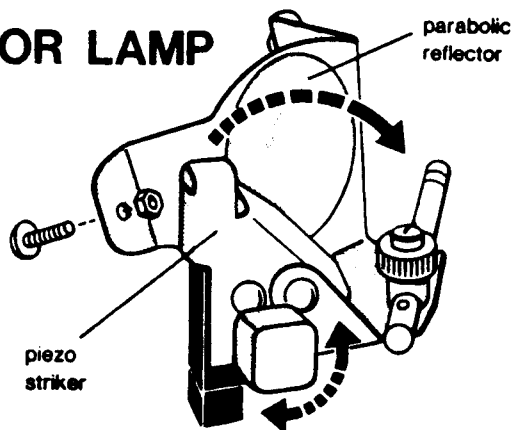

Fig. 1. The Petzl Piezo Striker, on the "Junior" lamp (Bob & Bob catalog).
Petzl of France uses piezoelectric ignitors to light their carbide lamp fixtures, which are supplied with gas through a tube from a remote-generator hanging at waist or shoulder. The ignitor design is Ferdinand Petzl at his best (Figure 1). The cover turns a knob and a number of things happen in rapid sequence: (1) the assembly pivots and cups gas above the burner tip; (2) meanwhile a small hammer is being cocked; (3) the hammer releases and fires the ignitor; (4) the assembly retracts quickly from the flame. This overall lighting system works pretty well in walking-size caves where the dangliness is not a problem, but US cavers have tended to stick with their cap-lamps.